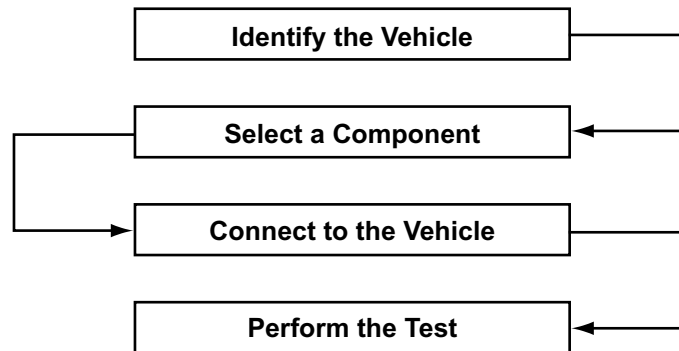

Figure 4-2 Basic operations
1. From the main menu, select **Component Tests > Component Testing > New Vehicle ID** (Figure 4-2).